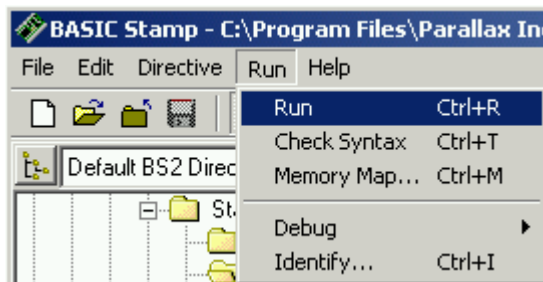

Figure 1-38
- ✓ Click Run, and select Run from the menu that appears (by clicking it) as shown in Figure 1-38.
Run your modified program. Hint: you will have to either click Run from the Run menu again, like in Figure 1-38, or click the Run button, like in Figure 1-40.